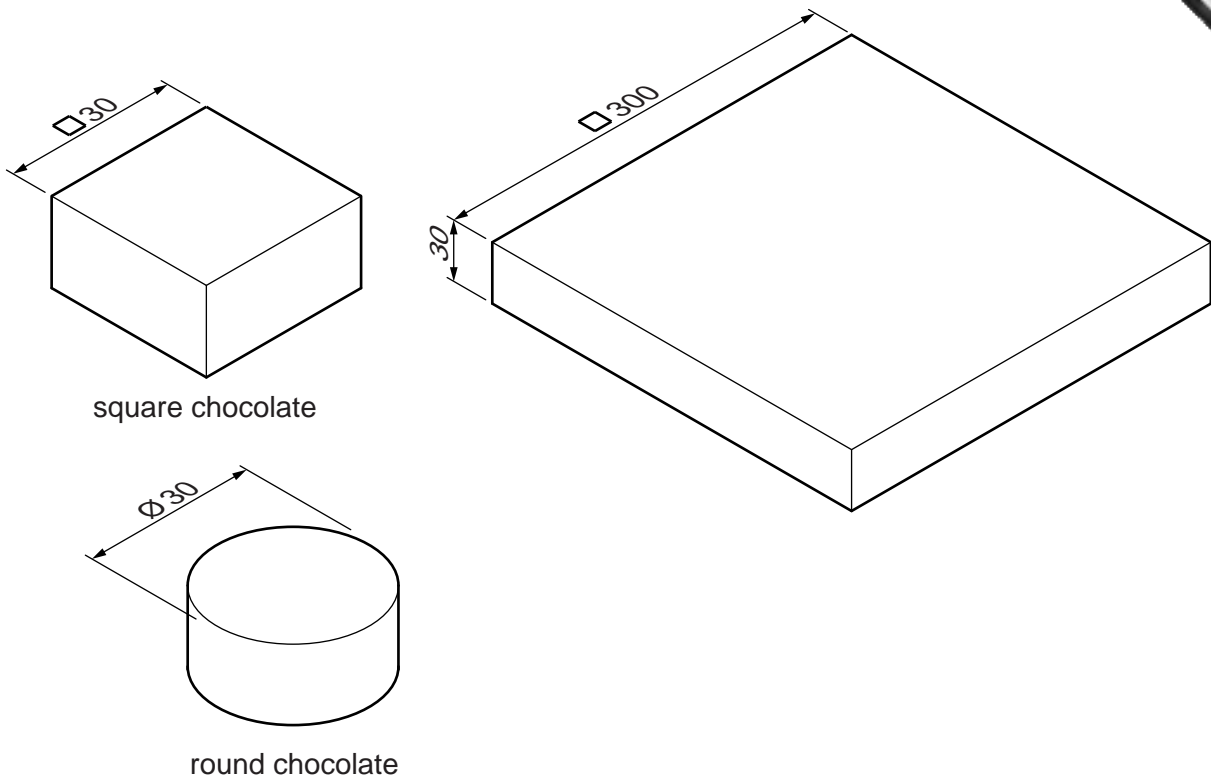

Fig. 10
- 8 Fig. 10 shows two types of chocolate and an incomplete idea for a card box in which they are to be packaged.